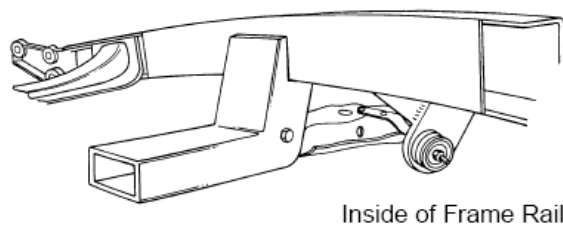

Figure 7- Strut Rod Install
12. Install the strut rod onto the control arm. Now, assemble onto the strut rod the large rubber bushings, including the cupped washers, and the strut mount plate. Be certain to fully tighten the nut on the strut rod to its' fully seated position. See **Figure 7**. There are two rubber bushing sets available; the standard replacement and the improved set. We recommend the improved set, as it provides more stability to the front suspension. The Pinto and Mustang strut rods are different lengths. We recommend the use of Pinto strut rods, as they are bent less than the Mustang strut rods. You will find that with either strut rod the strut rod plate does not line up with the bottom of the frame rail. The strut rod must be heated in the elbow area and bent outward. The rod is bent outward until the strut mounting plate lines up to the frame rail. You will find that because the Pinto strut rod is initially bent less and requires much less bending. The strut rod will act as an alignment fixture while you tack weld the mount plate in place, then tack weld the gusset in place. Remove the strut rod, bushings, and arm, and finish welding to the frame and each other.